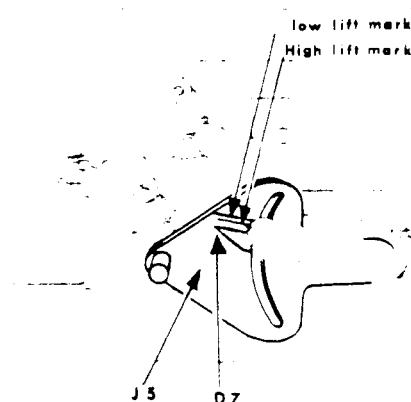
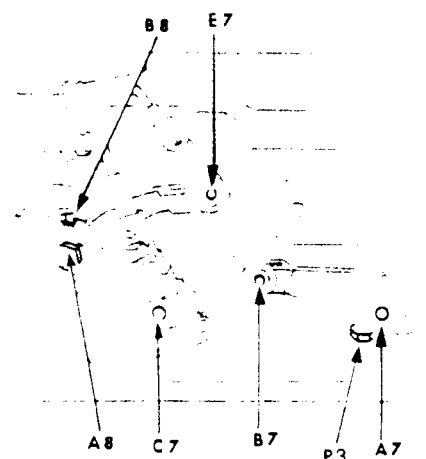
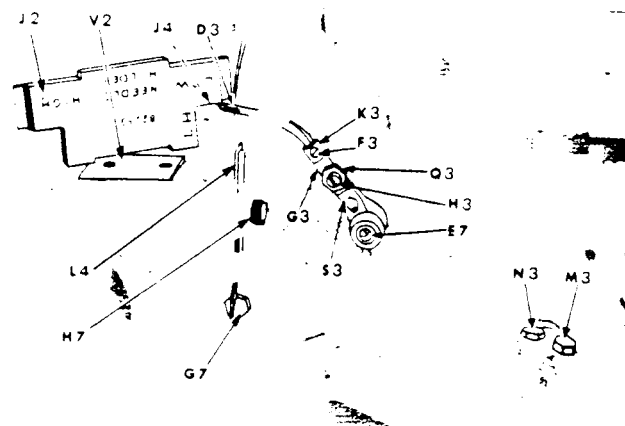

Fig. 39. To Position Gauge 165253.
Fig. 40. To Position Gauge 165253 - Cont'd.
Fig. 41. Adjustments.
Install gauge J5 (Fig.39, Page 21) with threaded pin in looper (right hand) driving shaft hole (A7-Fig.40) and the (2) remaining pins in holes B7 and C7 (Fig. 40).
When looper or spreader carrier is at its highest position, indicator (D7-Fig. 39) should be at the upper line on gauge for low-lift machines, (Nos. 460/12, 460/13, 460/14, 460/16, 460/20, 460/22). For high-lift machines, (Nos. 460/15 and 460/21) looper or spreader carrier is at its highest position when indicator D7 is at lower line on gauge.
To move right looper towards right, first loosen set screw N3 Fig. 41 two or three turns, then loosen clamping screw M3 Fig. 41 just enough to allow movement of looper assembly.
To move right looper towards left, first loosen set screw P3, Fig. 40 two or three turns.
When correct setting is obtained securely tighten clamping screw M3 Fig. 41, and then carefully tighten the set screws N3 Fig. 41 and P3 Fig. 40 an equal amount so that looper position is not disturbed.
Note: These allowances are possible provided the right hand looper carrier connecting link hinge pin E7 Fig. 41 is in contact with machine frame wearing plate. After each adjustment is made to eliminate looper side-wise play, the hinge pin set screw must be securely tightened with Allen Key No. 81440.
Place gauge J2 firmly upon throat plate seat V2 with end marked "LOW" toward needle, as shown in Fig. 41, Page 21.
Note: When installing a right looper (or spreader), loosen nut Q3, Fig. 41 and turn screw H3 anti-clockwise to align the screwdriver slot in head of screw H3 with centre-line of looper carrier S3, as shown in Fig. 41. Then loosen screw F3. Place collar K3 on looper shank and insert right looper in looper holder G3, as shown in Fig. 41.
Loosen screw F3 and nut Q3, Fig. 41
Right looper (or spreader) D3 should pass just behind left looper head and in front of needle; brushing lightly on needle. Additional adjustment for left to right position behind left looper head is provided by the hexagon head screw G7 Fig. 41.
Loosen screw H7 Fig. 41 and move Knife (stationary) L4 Fig. 41 upwards. Loosen hexagon head screw G7 and move screw up or down in the slot as required. Re-check looper (or spreader) settings and carefully reposition knife L4 and retighten screws H7 and G7, Fig. 41.
This setting can be secured by loosening nut A8 Fig. 41 and carefully turning in position screw B8 to make slight contact with the hexagon head screw G7, Fig. 41 Retighten nut A8, Fig. 40.
Loosen nut Q3, Fig. 41.